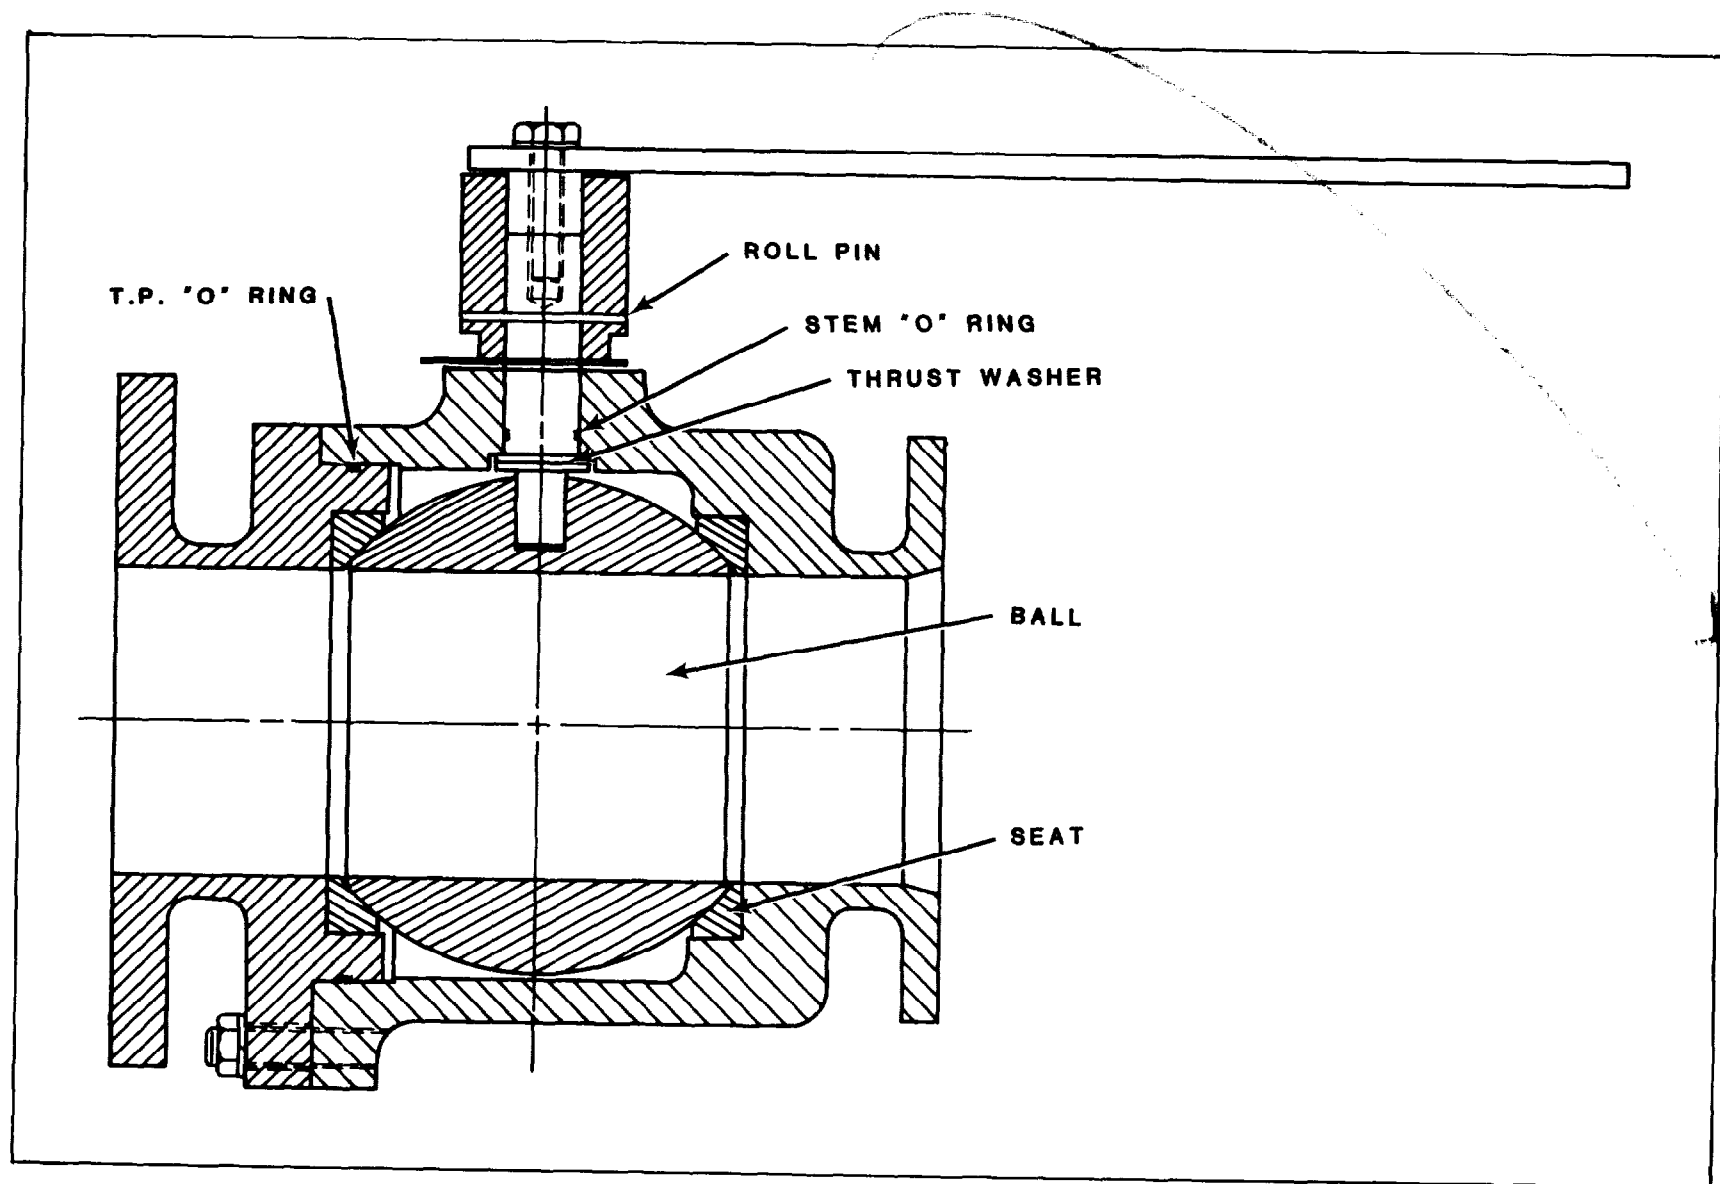

FIGURE 7-5
7.6.1 VALVES. Unless frequently used or proper maintenance is performed, cargo valves and cutout valves can become stiff or frozen. Most stiff valves will loosen after repeated cycling. If frozen, cargo ball valves should be removed from the piping manifold and carefully disassembled and cleaned. Figures 7-5 and 7-6 show the ball valve cross-section.